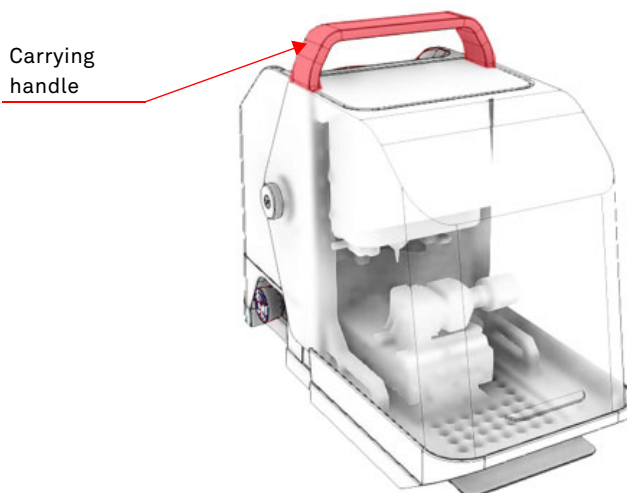

Figure 14 - Carrying handle for the machine
- by grasping the upper handle of the machine (Figure 14);